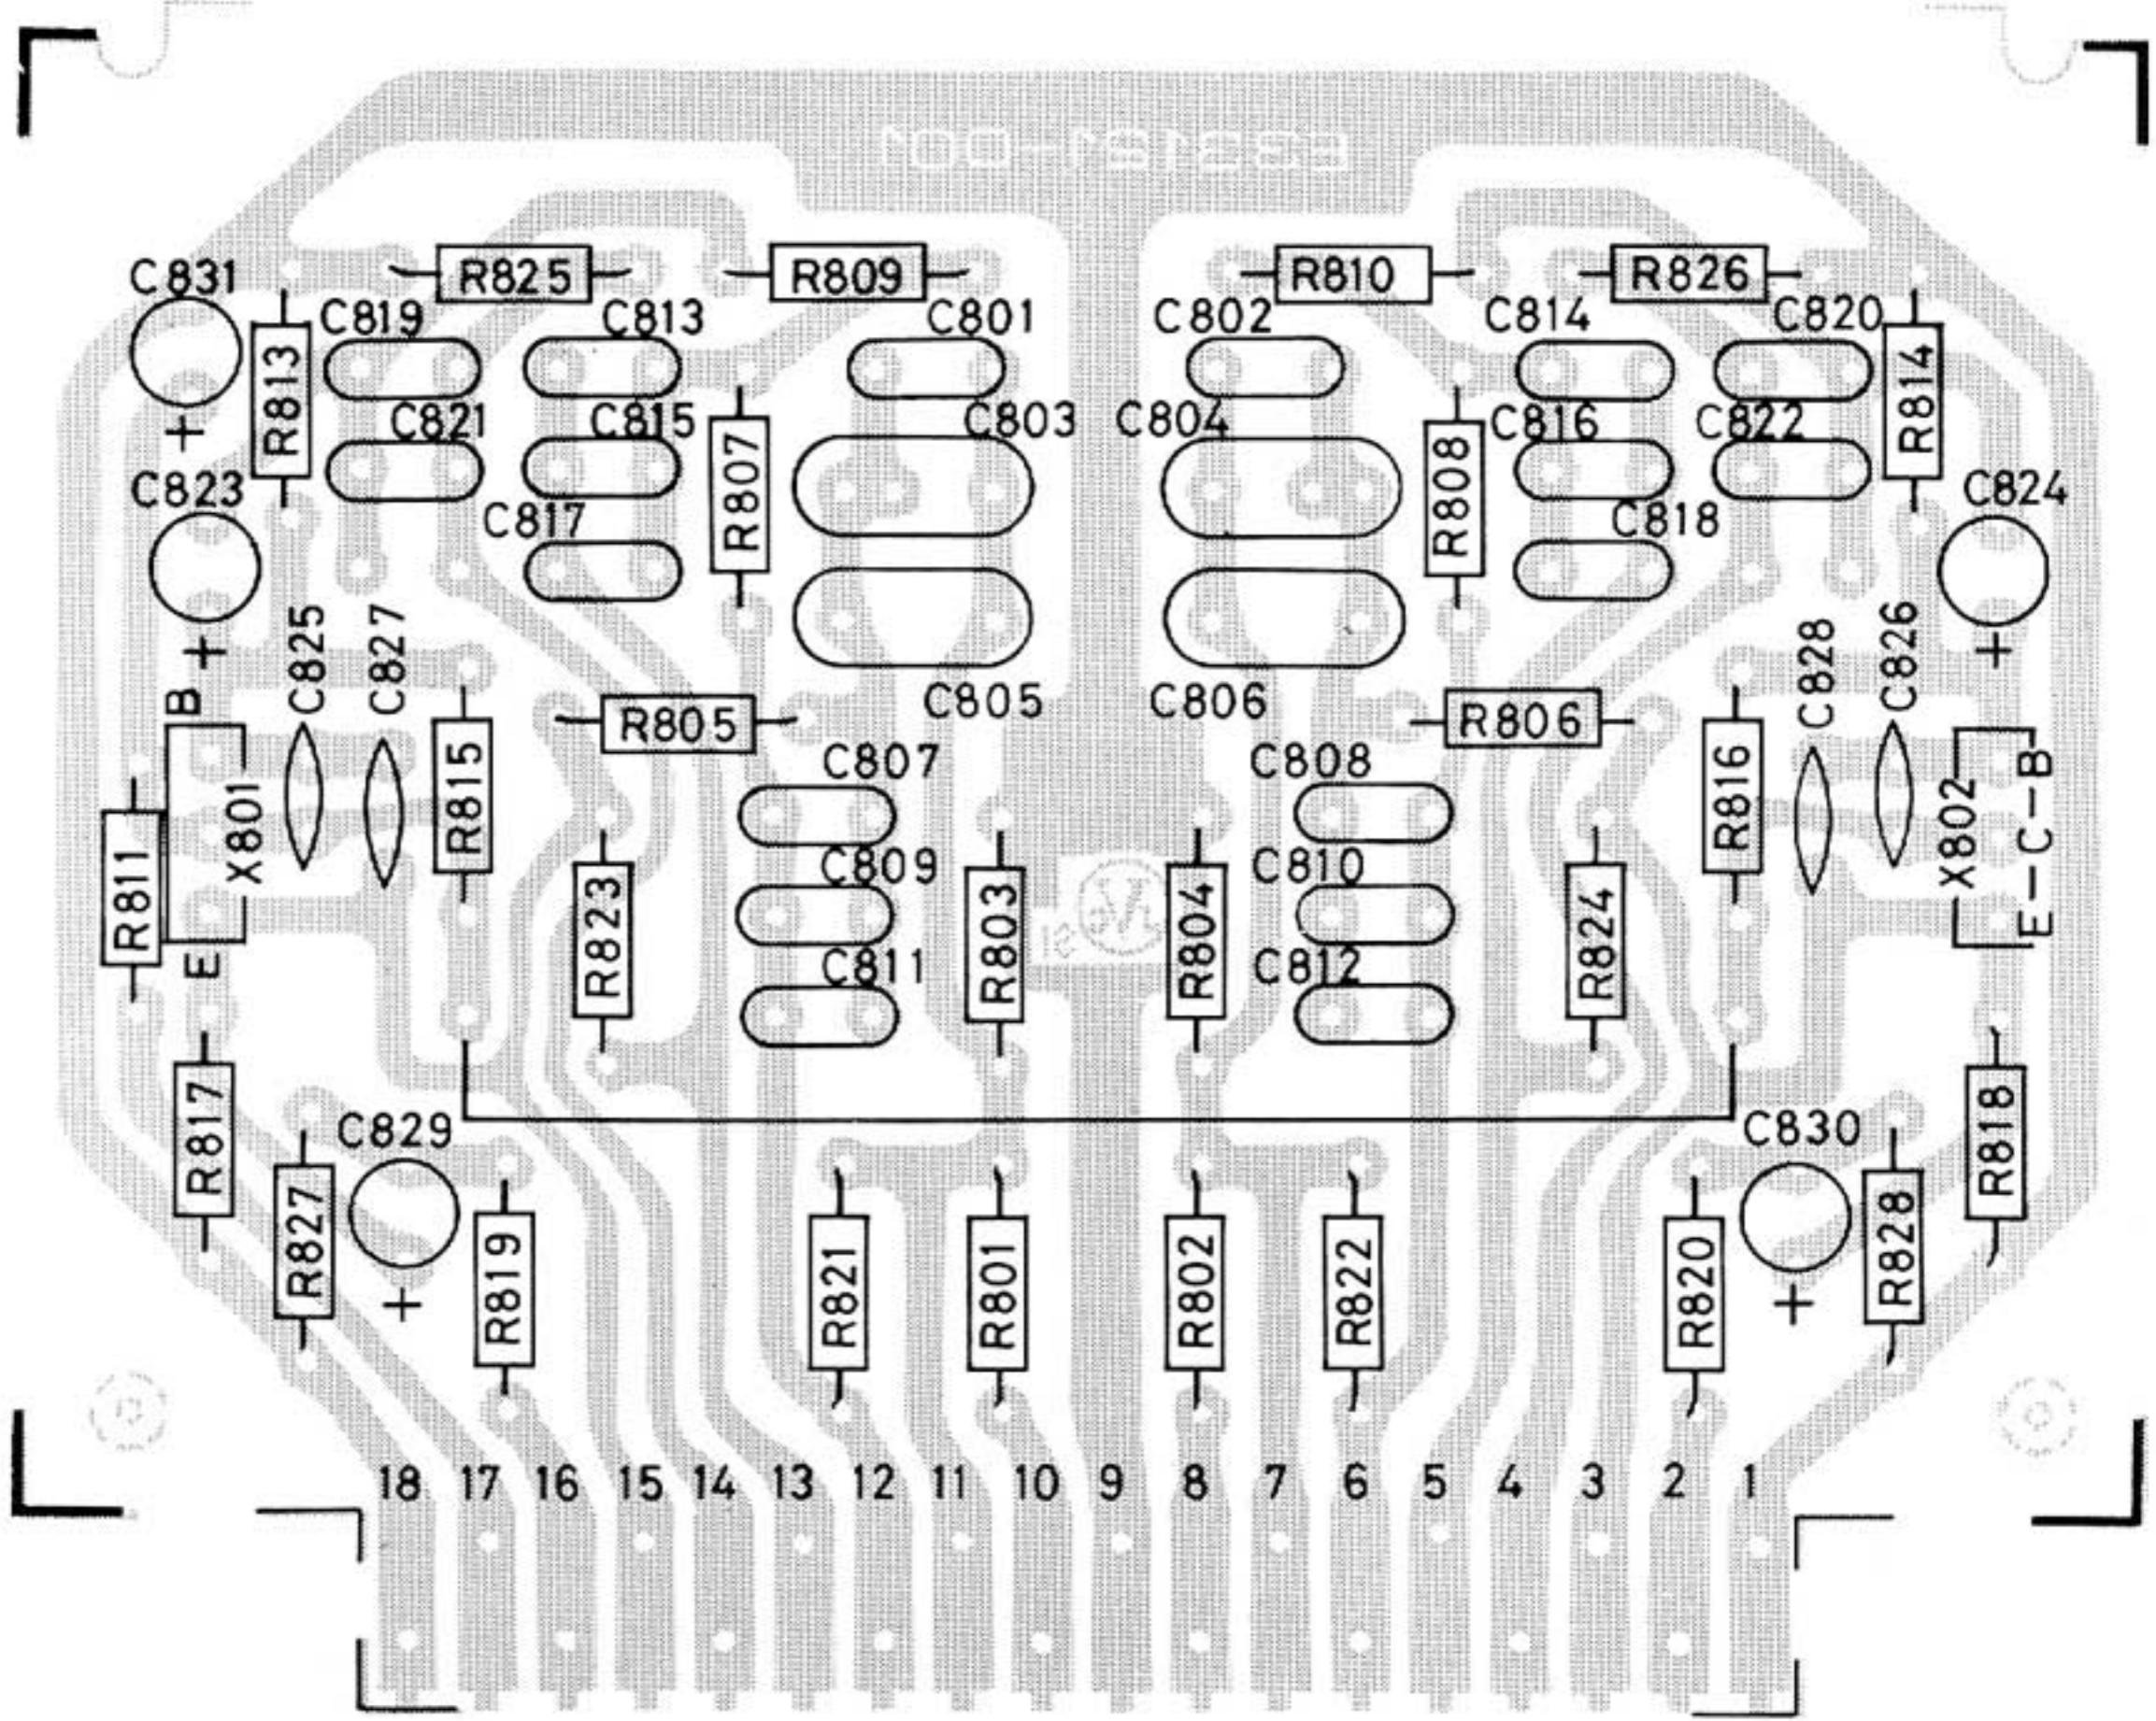

Fig. 30
**WIRE CONNECTION** (Fig. 30, 31)